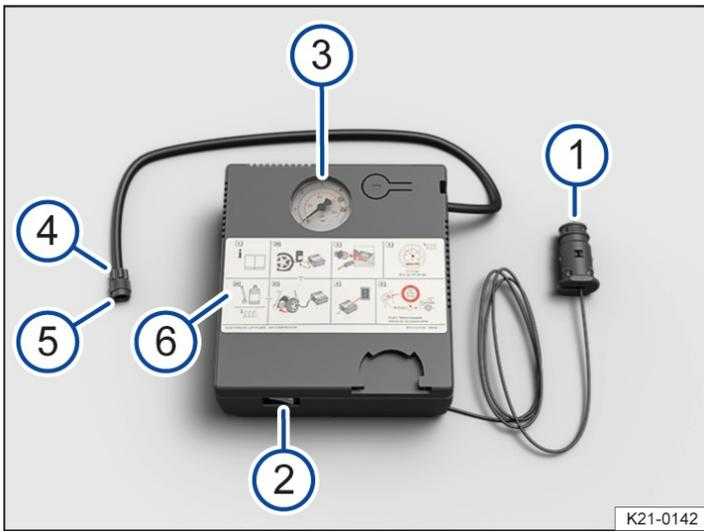

Fig. 2 Illustration: compressor from the breakdown set.
1. Screw the tyre filler hose → Fig. 2 ⁵ of the air compressor tightly onto the tyre valve.
2. Make sure that the air bleed screw → Fig. 2 ⁴ is closed.
4. Insert the 12-volt plug → Fig. 2 ¹ into one of the vehicle's 12-volt sockets (→ Sockets).
5. Use the ON/OFF switch → Fig. 2 ² to switch on the air compressor.